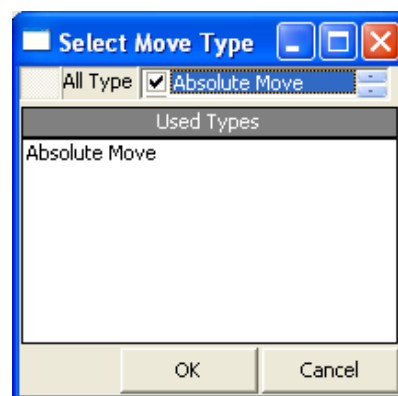
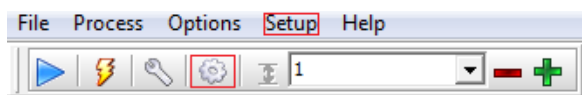

Fig. 40 Window of available motion types
Fig. 41 How to display the auto calibration
6. If you consider that the reference point was not achieved in this window (Fig. 40), click *NO* button. Then you will be asked to set in manual mode the reference position, consisting on performing motion on certain axes from the control panel menu of certain axis or manually after turn off current axis. After obtaining the reference position, confirm this fact by clicking the *OK* button (fig. 41). If you want to stop the process, click *Cancel* (fig. 40)